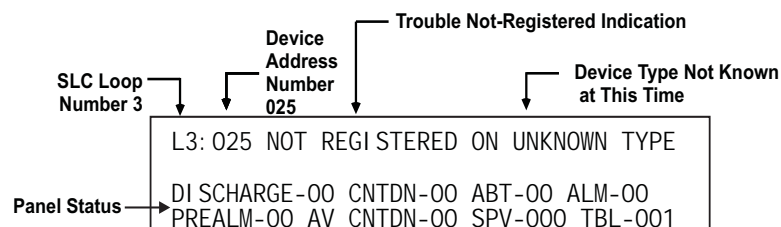

Figure 3-1. Typical Device Not Registered Message
3. All of the SmartOne devices connected to the SLC will report a not-registered trouble message similar to the message shown in Figure 3-1: